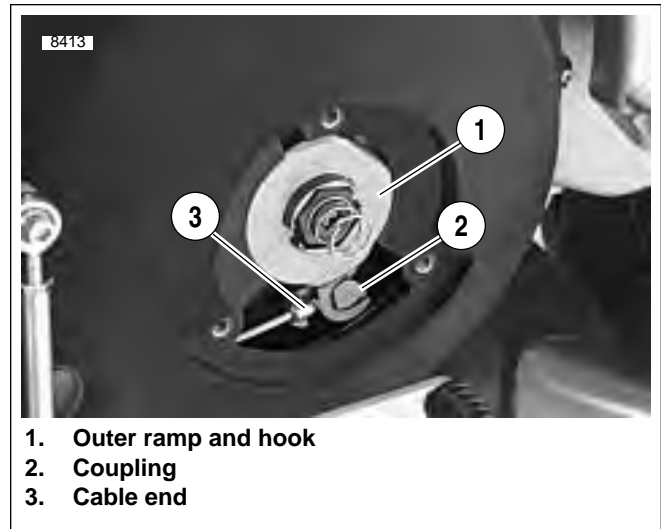

Figure 6-2. Clutch Release Mechanism (Typical)
12. See Figure 6-2. Remove the outer ramp and hook (1) from the cable end (3) and coupling (2). Remove cable end from slot in coupling. See 6.3 CLUTCH RELEASE MECHANISM